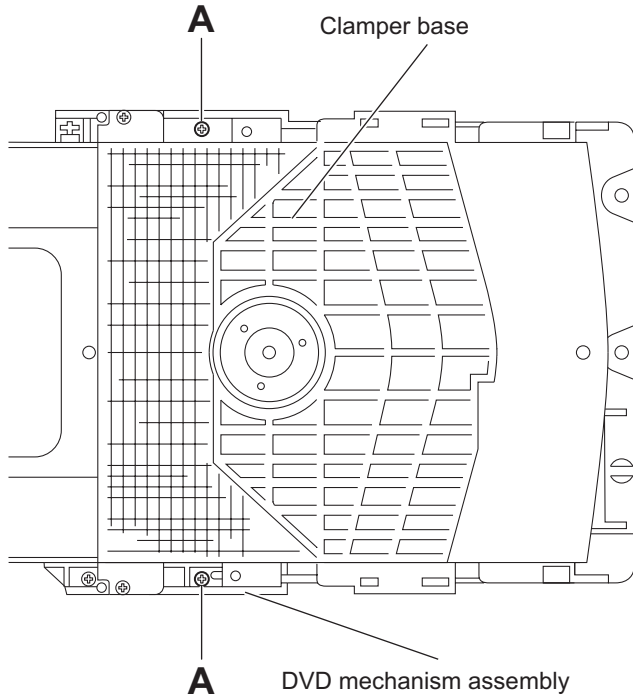

Fig.1
3.2.1 Removing the traverse mechanism (See Fig.1 to 6)
(1) Remove the two screws **A** attaching the tramecha holder from top side of DVD mechanism assembly. (See Fig.1)